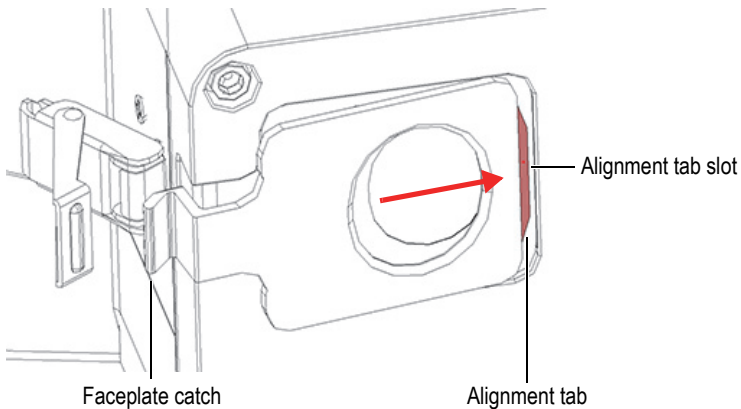

Figure 4-10 Inserting alignment tab into tab slot
4. Slide the faceplate into the cutout on the probe, making sure the faceplate alignment tab is inserted into the tab slot (Figure 4-10 on page 66).